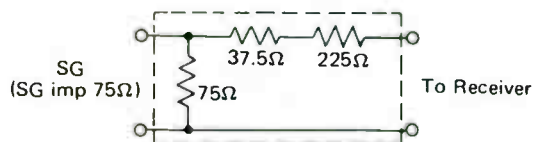

Fig. 11 FM DUMMY ANTENNA
- Dummy Antenna . . . . . Refer to Fig. 11.
Dummy Antenna . . . . . Refer to Fig. 11.